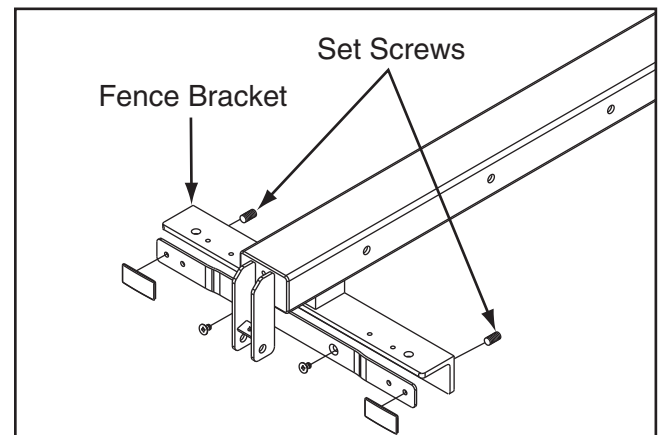

Figure 139. Location of set screws used to adjust fence parallelism and clamping pressure.
- Remove the fence, equally adjust the set screws shown in **Figure 139**, then re-install the fence and check the clamping pressure. Re-adjust as needed until the fence will not move as pressure is applied against it.